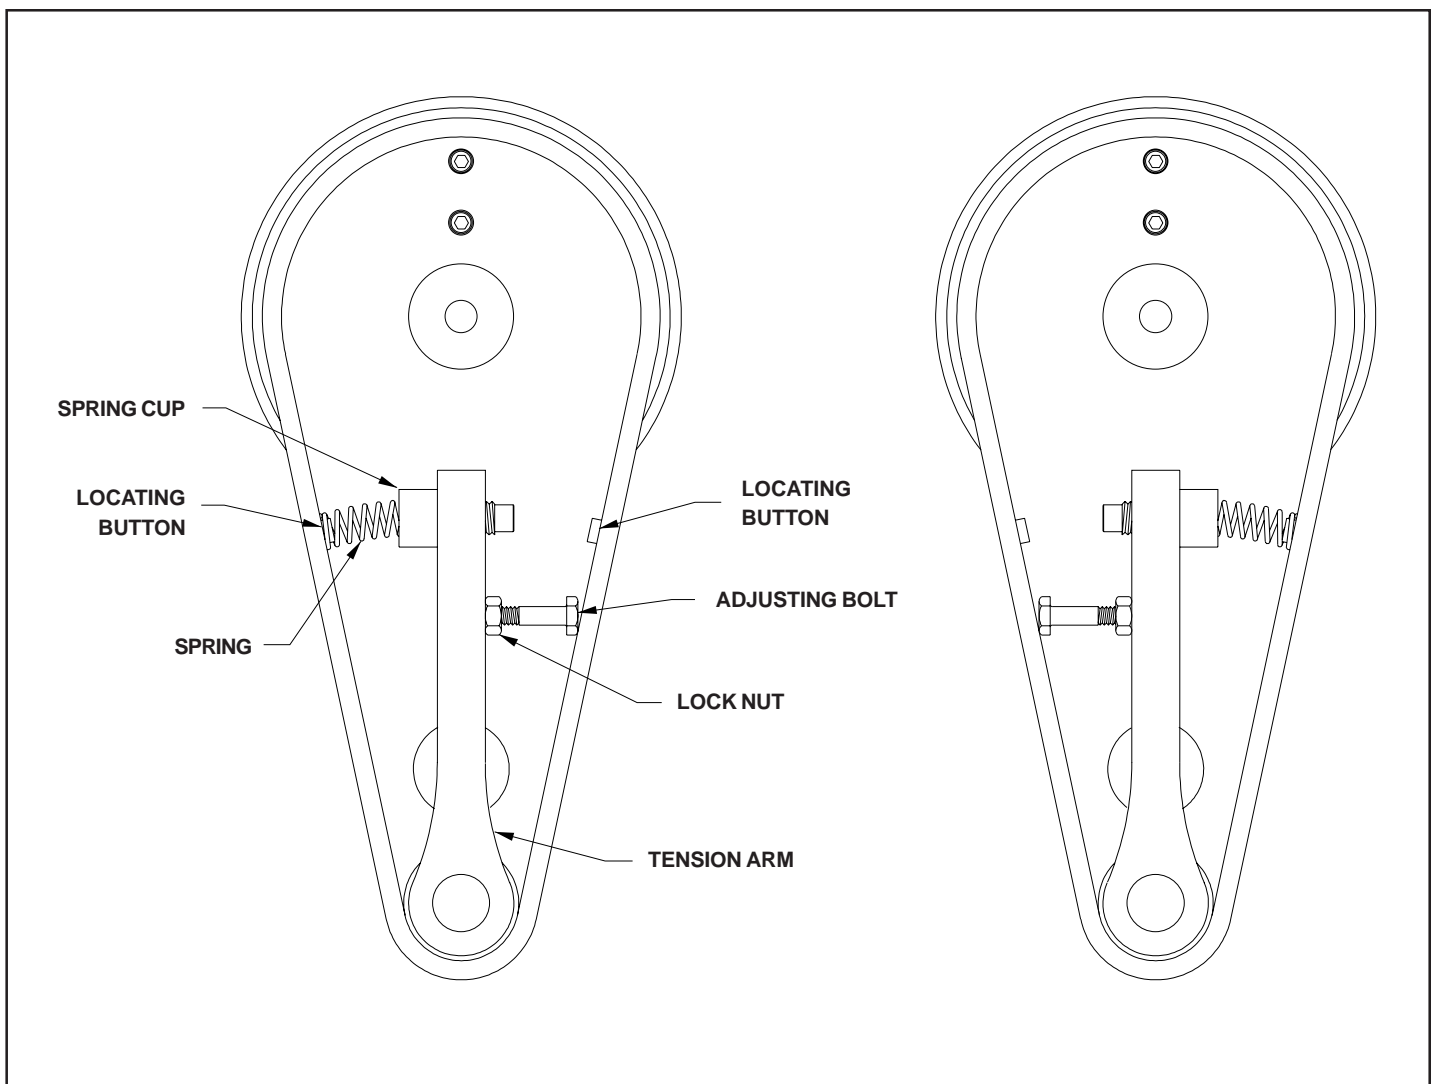

FIGURE 38
- 1- Loosen the Lock Nut and screw the Adjusting Bolt in to relieve the spring pressure (Figure 38).